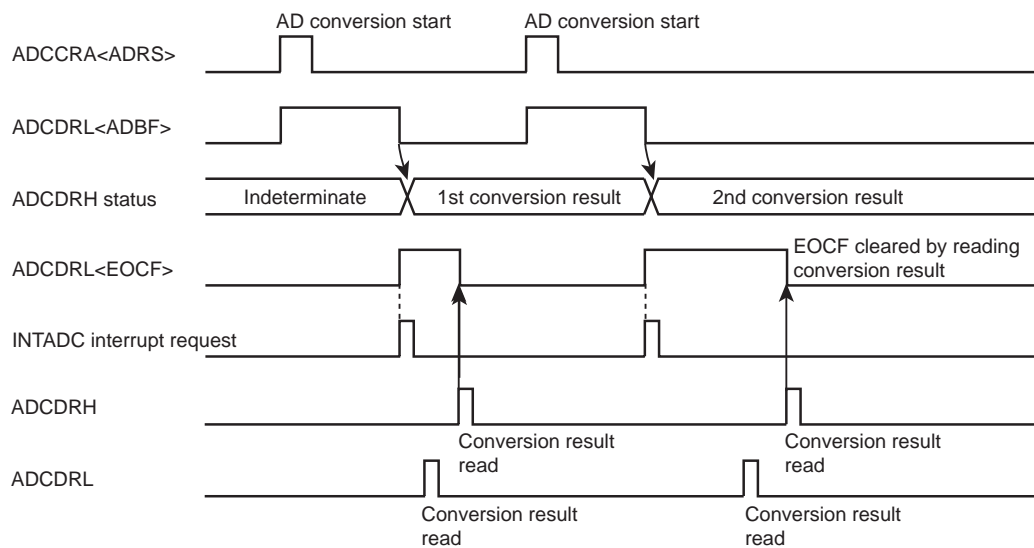

Figure 17-2 Software Start Mode
- Set the AD conversion time using AD conversion time (ACK). For details on how to set the conversion time, refer to Figure 17-1, Figure 17-2 and AD converter control register 2.
3. After setting up (1) and (2) above, set AD conversion start (ADRS) of AD converter control register 1 (ADCCRA) to "1". If software start mode has been selected, AD conversion starts immediately.